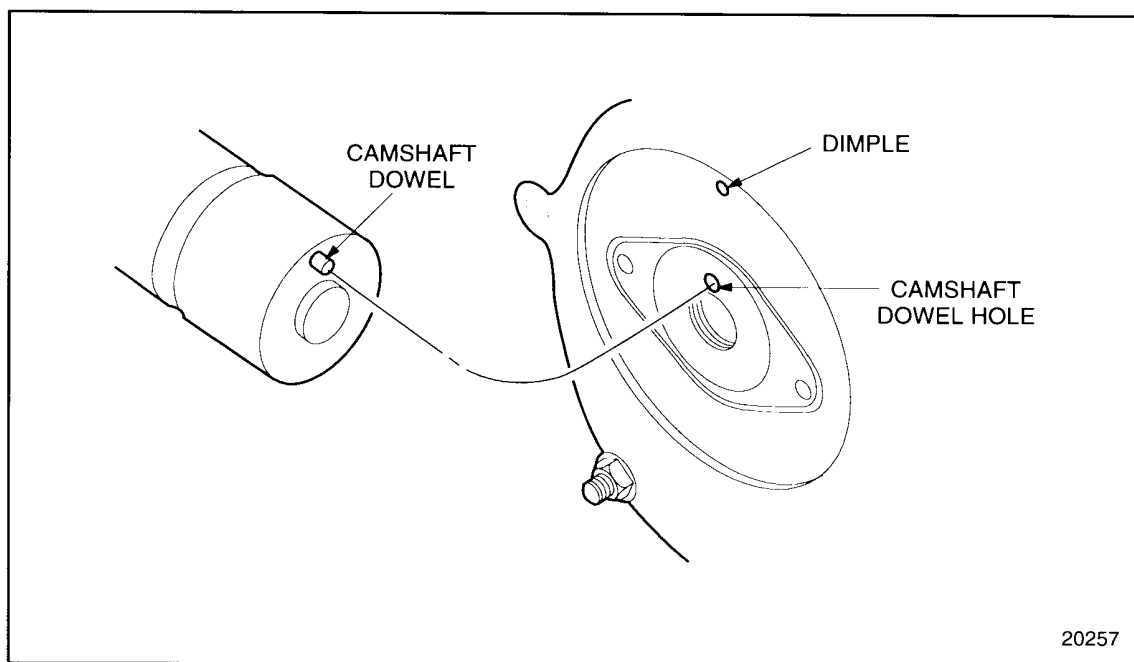

Figure 1-308 Indexing Camshaft Dowel
3. Before installing the camshaft dowel into the camshaft hub, ensure that the dimple in the thrust plate is located at the 12 o'clock position to properly position bolt holes to cam cap and cylinder head. See Figure 1-308.